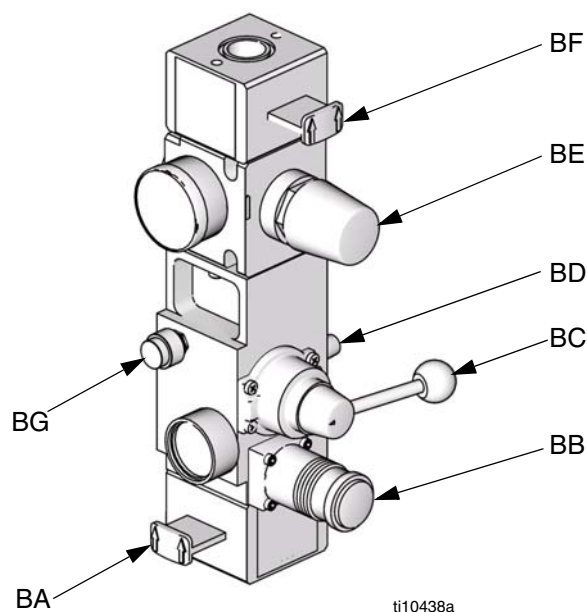

FIG. 2. Integrated Air Control Module
2. **Integrated Air Controls:** See FIG. 2, page 10. Close the air motor slider valve (BF) and the main air slider valve (BA).